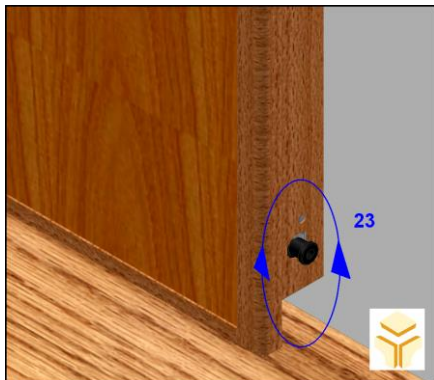

Fig. 3.8.1 – Tuning draught excluder
Tune the draught excluder screwing or unscrewing the bolt on the inferior side of the door leaf (23) (fig.3.8.1) so it can be activated, when the door is closing. That way the all structure will be sealed